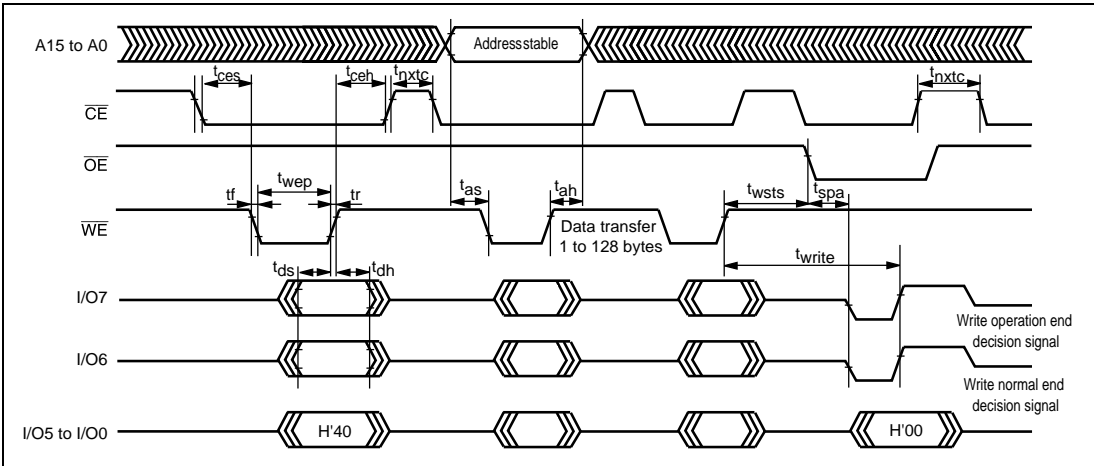

Figure 6.17 Timing Waveforms in Auto-Program Mode
5. Memory address transfer is performed in the second cycle (figure 6.17). Do not perform transfer after the third cycle.